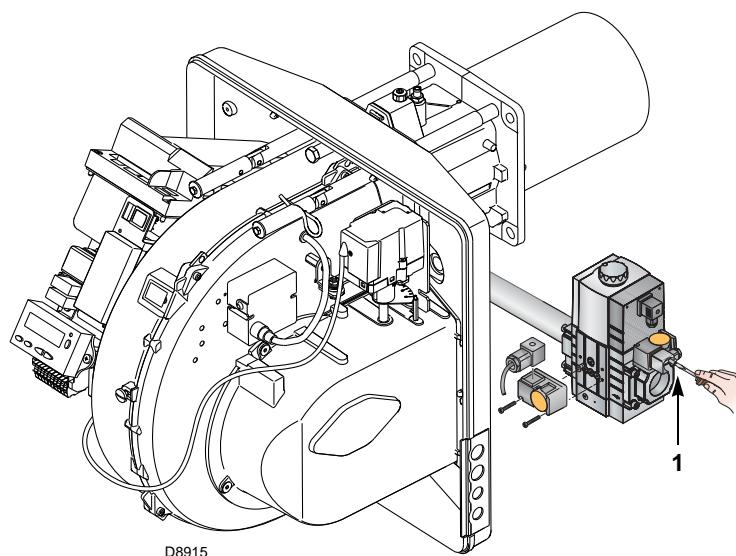

Fig. 25
- Check the gas supply pressure by connecting a pressure gauge to the pressure test point 1) (Fig. 25) of the minimum gas pressure switch: it must be lower than the maximum allowed pressure of the gas train, as shown on the characteristics label.
- Bleed the air from the piping of the gas train, connecting a plastic tube to the pressure test point 1) (Fig. 25) of the minimum gas pressure switch. Take the vent tube outside the building so you can notice the smell of gas.